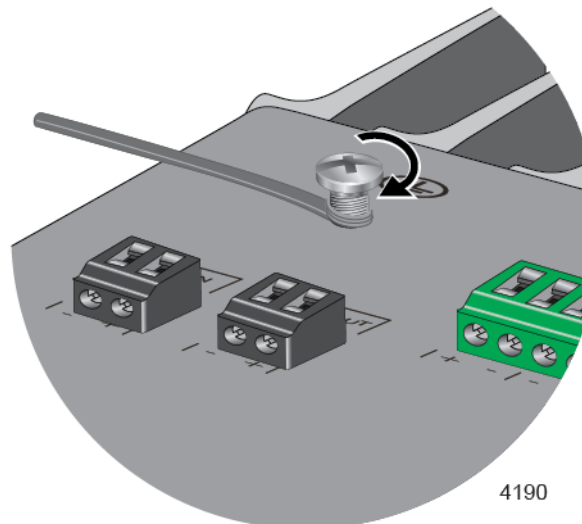

Figure 32. Wrapping the Grounding Wire Around the Grounding Screw
3. Wrap the grounding wire clockwise around the base of the grounding screw. Refer to Figure 32.